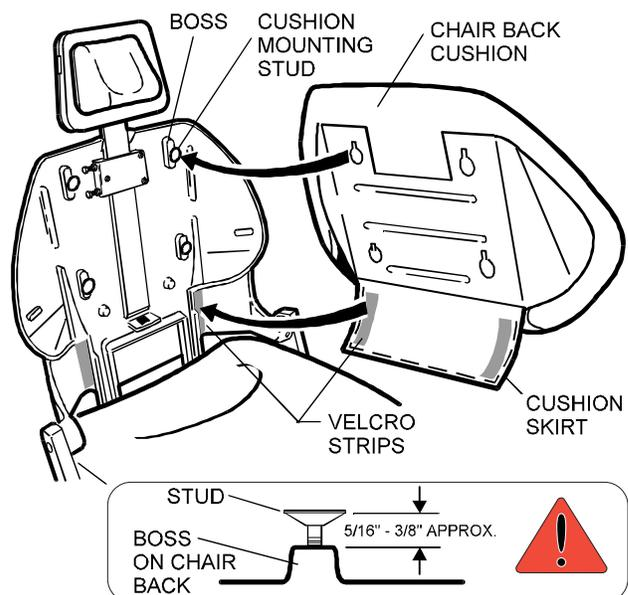

Figure 3
The seat back is mounted over the four large head studs in the chair back (see Figure 3). Use the following instructions after first raising the back to a convenient height for installing the cushion.
1. Before installing the chair back cushion, turn the four cushion mounting studs counter clockwise until they are approximately 5/16 to 3/8 inches from the top of the boss (See Figure 3).